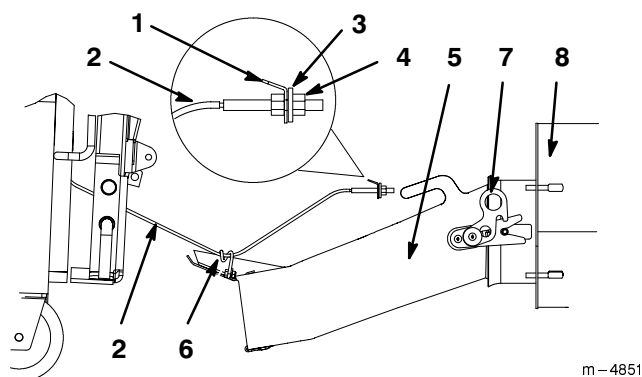

Figure 43
3. Flip seat up and unlatch plenum from both sides of blower inlet (Fig. 43).
4. Pull plenum out from blower housing and place it on the ground (Fig. 43).
5. Pull or slide plenum out from between deck and traction tire (Fig. 43).
3. Flip seat up, reach down and direct plenum into blower housing. Ensure the plenum latches lock into both sides of blower housing (Fig. 43).
4. Reach through from lefthand side in front of traction tire, lift plenum and wind cable counter clockwise around plenum cable guide (Fig. 43).